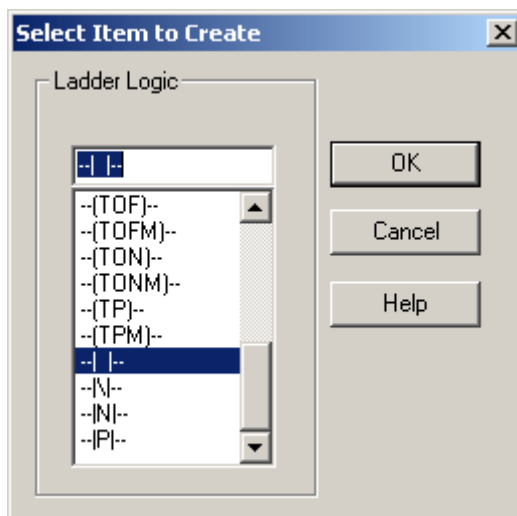

Figure 6-23 Select Item to Create dialog
1. Click the **New Ladder Logic Element** button on the **Line Connection** toolbar. The Select Item to Create dialog displays. See Figure 6-23.